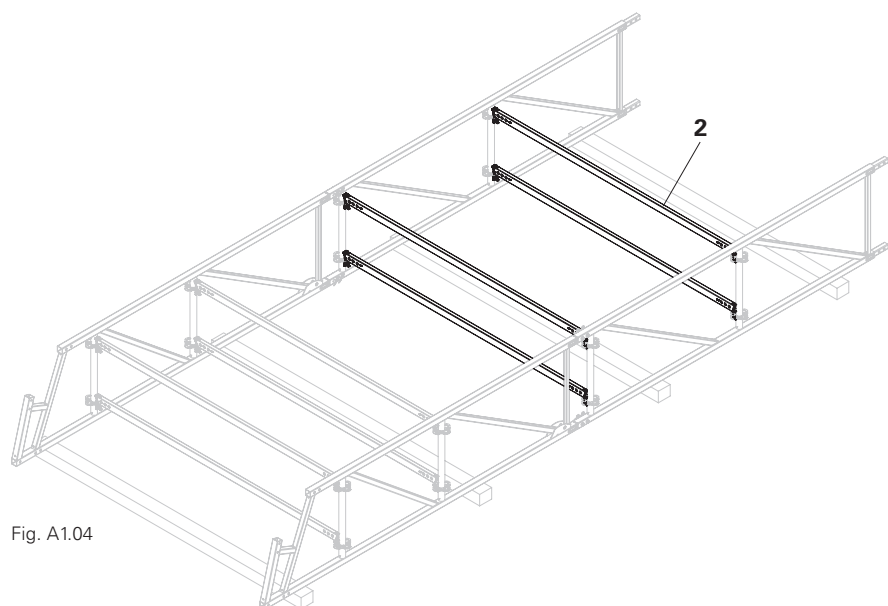

Fig. A1.04
3. Attach horizontal ledgers (**2**) to the rosette on both sides (**1.1**) using the ledger heads and wedges (**2.1**). (Fig. A1.04)